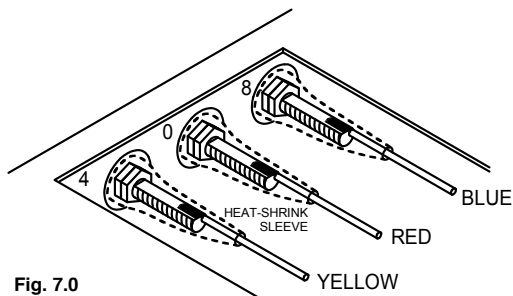

Fig. 7.0
- Turn over the housing and solder the transformer leads to the output terminals, see figure 7.0.